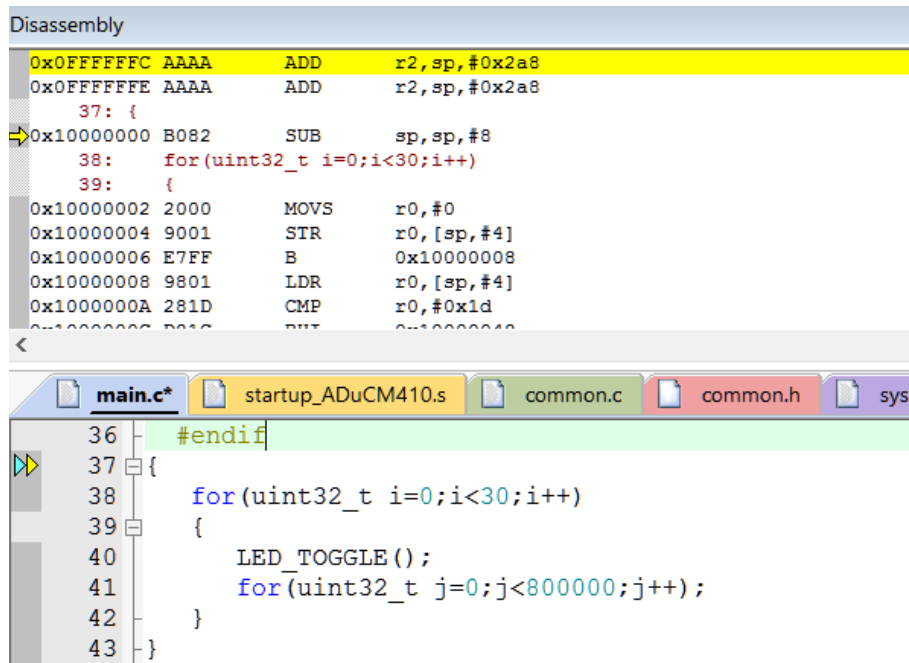

Figure 38. Flash Configuration Setup
9. Running the settings in Figure 38 shows that the ISRAM is placed in debug mode via the **Disassembly** window.